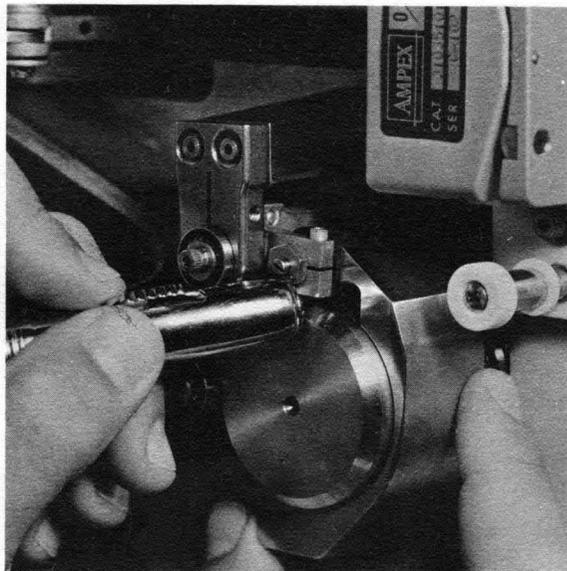

Figure 5-9b.
- Step 5: Slip setting gage Ampex Part No. 31 00914 10 over capstan, as shown in Figure 5-9b.